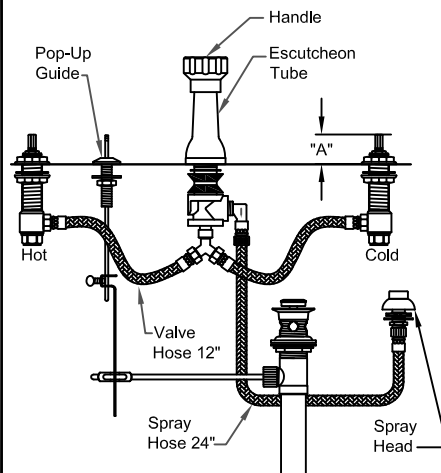

Fig. 1
- 2 Install Spray Head (See Fig. 1):**
- 3 Install Pop-Up Guide (See Fig. 1):**
- 6 Install Hoses (See Fig. 1):**